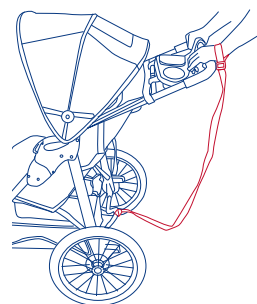
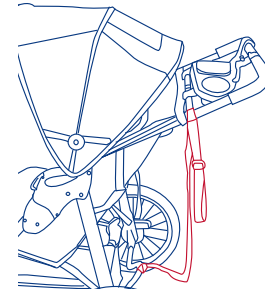

Figure 16.
Figure 17.
- Always connect the safety strap to either wrist when jogging. This strap will keep the stroller from rolling away in the event that you trip while running. See figure 16. The safety strap must remain connected to the rear lower frame cross member at all times. This location is intended to prevent the stroller being tipped backward in the event that you do fall to the ground. The safety strap includes a Velcro attachment for storage, on the left side of the stroller, when not in use. See figure 17.